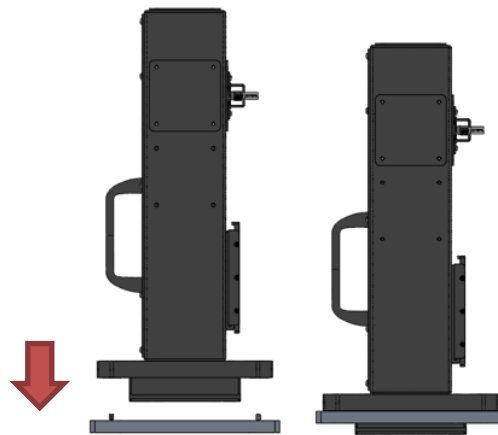

Figure 5-1 Tesseract Installation
- b. Figure 5-1 below. While holding the handle, slowly lower the Tesseract on to the interface mount. Once the front mount of the Tesseract has contacted the interface plate surface, the mounting bolts should be installed.